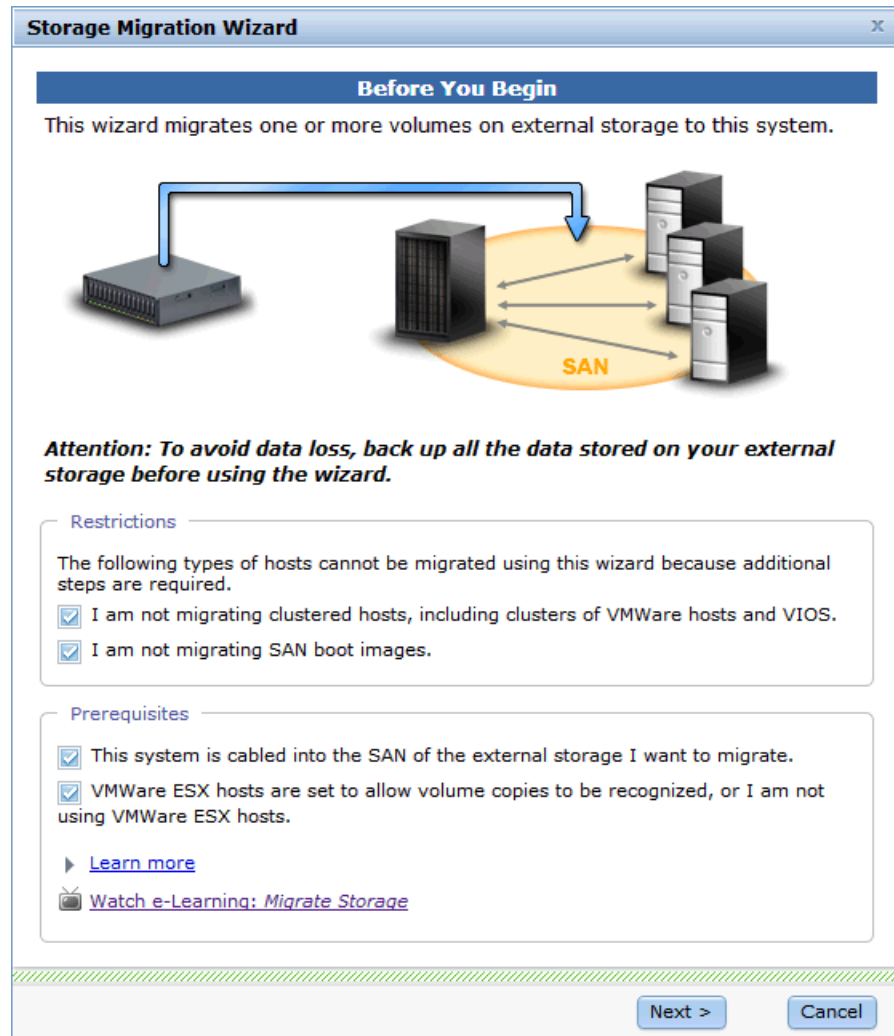

Figure 7-10 Storage Migration Wizard step 1- Before You Begin window
1. Follow Step 1 of the Storage Migration Wizard to check the restrictions and prerequisites, and click **Next** as shown in Figure 7-10.
Figure 7-10 shows there are some restrictions and prerequisites to using the Storage Migration Wizard: